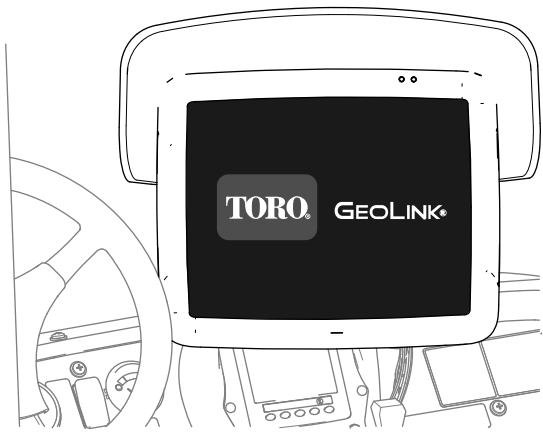

Figure 190
- Control console—displays graphics and text (Figure 190)